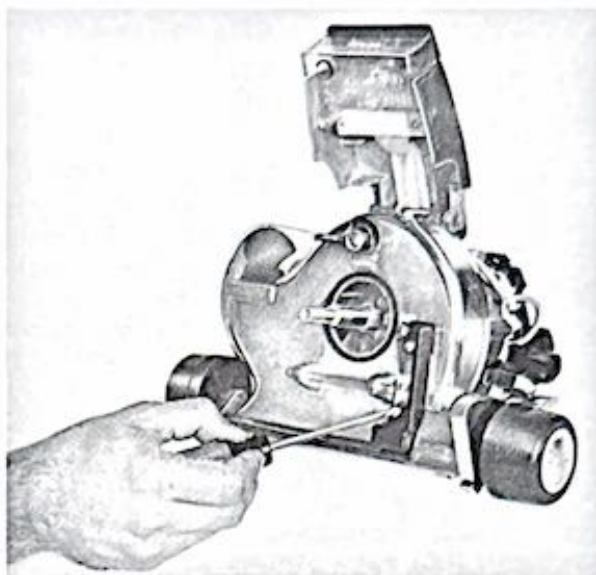

Figure 1-7. Removing lever cover from fan housing
(1) Remove screws (61), and lever cover (60) from the face of fan housing (67), in order to pull lever (59) from the selector switch linkage arm which projects through the fan housing. See figure 1-7.
(2) If testing was performed in paragraph b, above, the leads will already be removed from the selector terminals; otherwise, remove lead cover